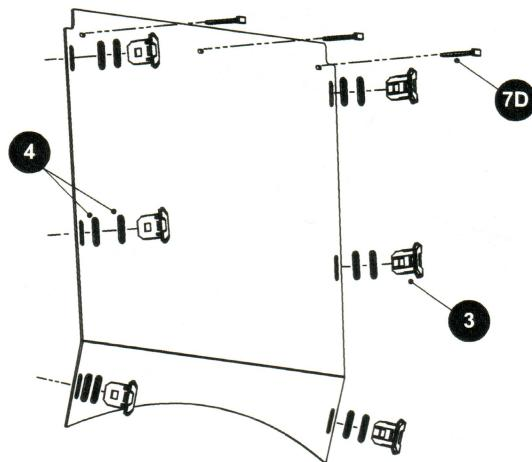
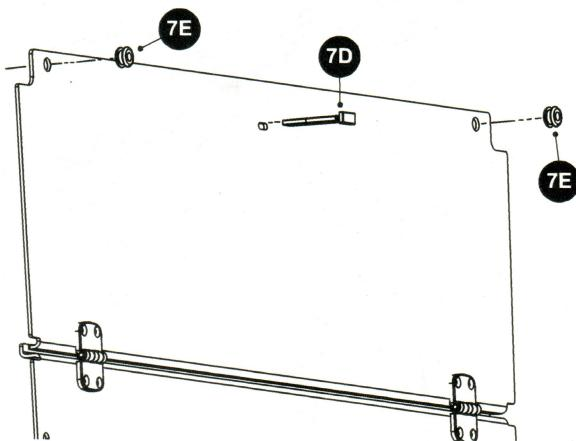

Fig. 4
Fig. 5
1. Insert clips (3) each with two gaskets (4) into slots of windshield, as shown in Fig. 4.
2. Insert latches (7D) or grommets (7E) into the top of the windshield, as shown in Fig. 4 and Fig. 5.
NOTICE: Full Windshield (682913) to use three rubber latches (7D) across top, as shown in Fig. 4. Orientation shown in Fig. 5 for Split Windshield (682912).